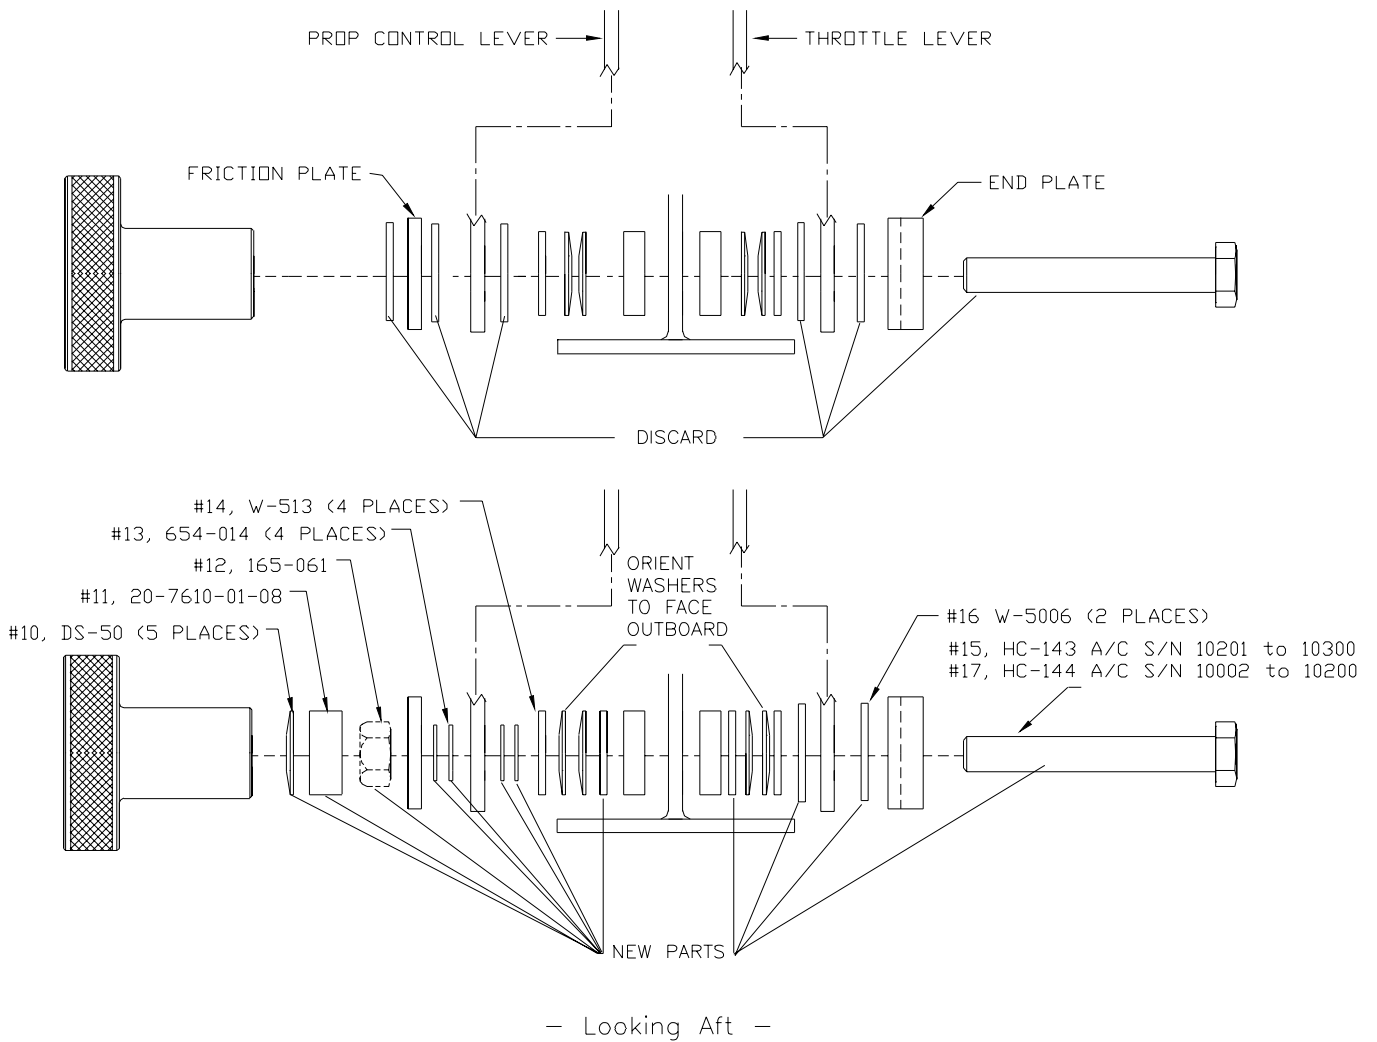

Figure 3
- 10.9 Refer to Figure 3. Disassemble the throttle quadrant as shown discarding the parts as indicated. Reassemble the throttle quadrant adding the new parts and orienting the DS-50 washers as shown. Torque the 5/16-24 nut to 5-5.4 ft.lbs (6.8-7.3 Nm). Note: For A/C serial numbers 10002 to 10200 use the 2 1/2" bolt. For A/C serial numbers 10201 to 10300 use the 2 1/4" bolt.